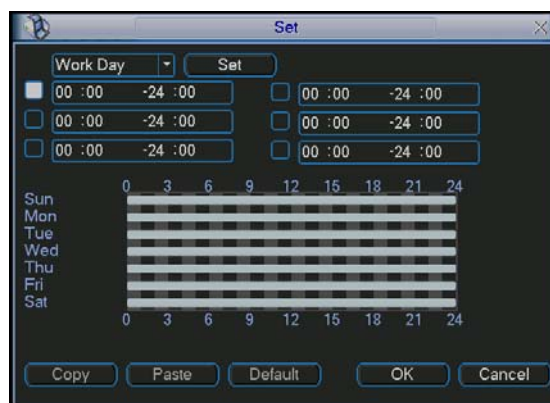
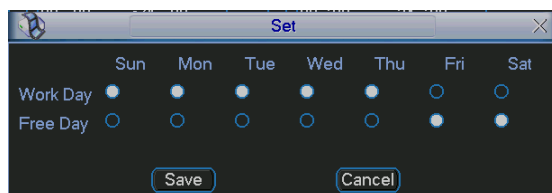

Figure 4-33
Figure 4-34
- Period: Click set button, you can see an interface is shown as in Figure 4-33. Here you can set for business day and non-business day. In Figure 4-33, click set button, you can see an interface is shown as in Figure 4-34. Here you can set your own setup for business day and non-business day.